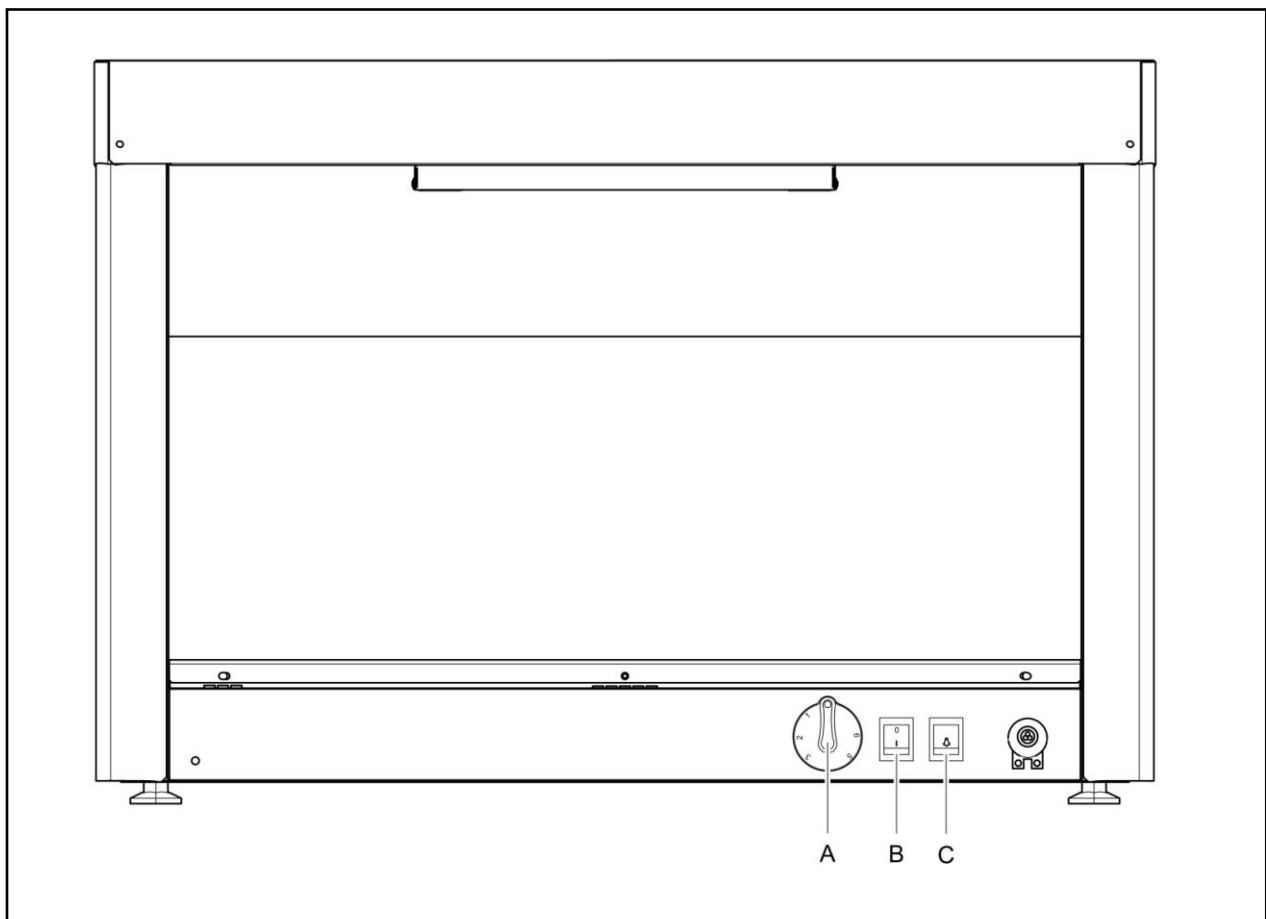

Fig 3
Consulting Fig 3(LD model shown), connect the appliance to the electrical supply and switch on (B).